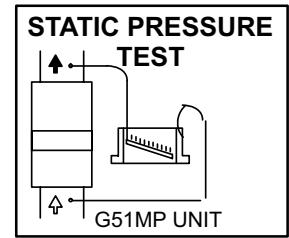

FIGURE 46
- 1 - Measure tap locations as shown in figure 46.